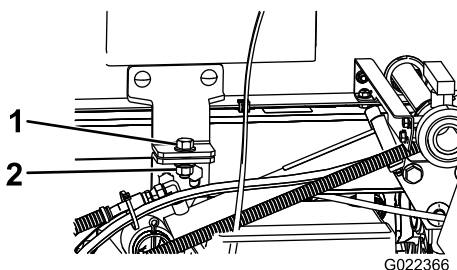

Figure 96
5. Remove the safety bolts from the front of the skid (Figure 96).